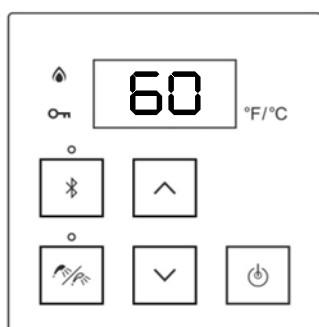

Figure 77
13. Display shows “60” (Figure 77) which indicates the remaining flush time in minutes. The number decreases by 1 every minute. For some reasons, flushing needs to be paused, stop the pump. The number on the display does not decrease while the unit does not detect water flow. When the pump resumes operation, the remaining flush time resumes decreasing as well.